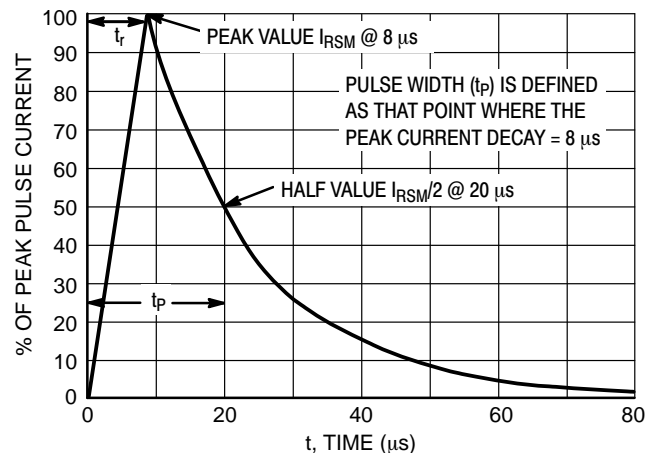

Figure 7. 8 X 20  $\mu$ s Pulse Waveform
1. Surge current waveform per Figure 7.